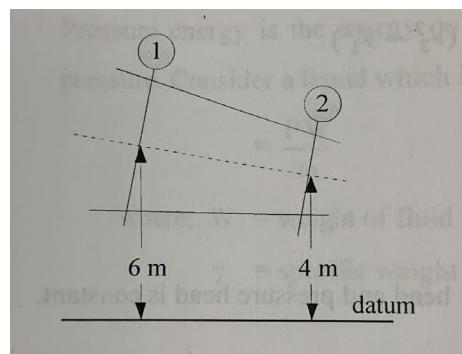

Figure B1(b) : Distance from datum / Rajah B1(b) : Jarak dari datum
- (c) Figure B1(c) shows an inverted differential manometer connected to pipe A and pipe B containing water. Calculate the pressure difference between pipe A and B.